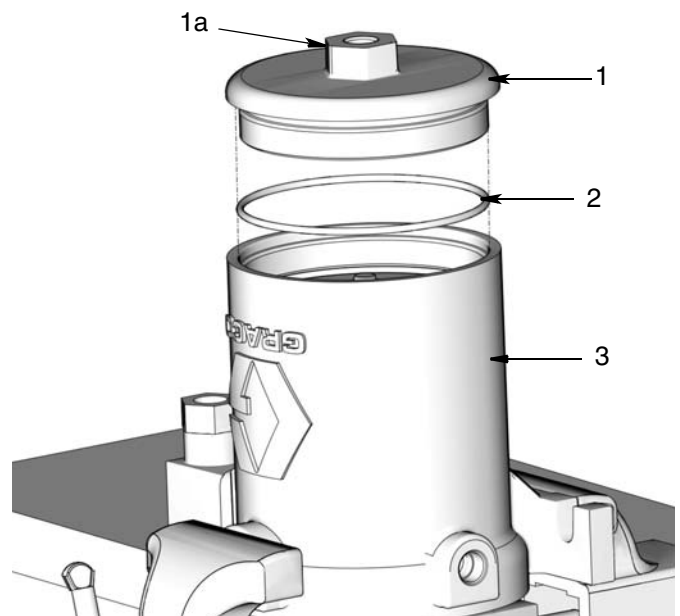

FIG. 34
10. Apply a thin layer of grease to the cover o-ring (2). Install o-ring to cover (1) (FIG. 34).
11. Install cover in bottom of air motor cylinder (3). Apply pressure with your hand to help seat the cover and compress the spring. Use a wrench on nut (1a) to turn and tighten the cover securely then torque to 28 to 32 ft. lbs. (37.9 to 43.4 N.m) FIG. 34.